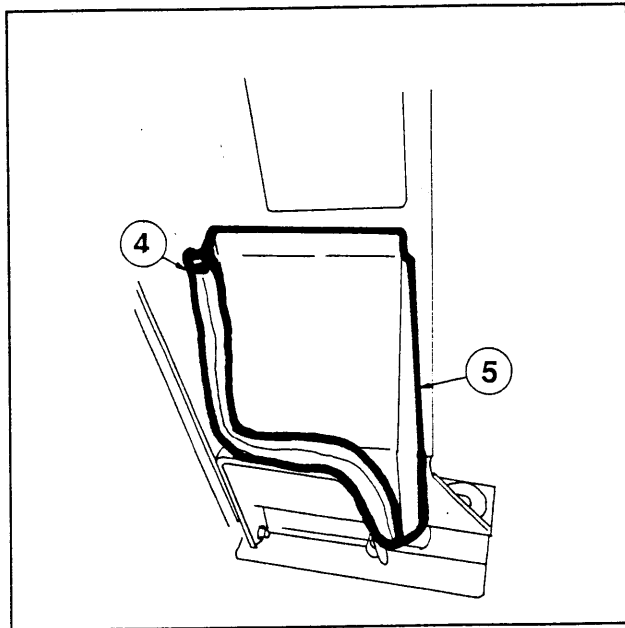

Figure 6
12. Take the left underhood shield (5) and slide 180 degree O-rubber (4) onto the inside edge where the shield contacts the operator foot platform and hood. Position the shield in front of the clutch pedal, against the outside of the cab frame. Screw the shield to the frame using the 1/4"x3/4" self-tap screws along the top and 1/4"x3/4" hex bolts and whiz nuts along the side. (see Figure 6)